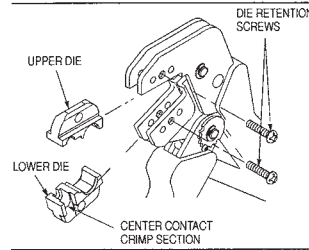

Figure 2
**3.1. Shouldered Dies (Figure 2)**
**NOTE** Die assemblies with center contact crimp sections should be installed with the center contact crimp section toward the front of the tool jaws as shown in Figure 2. If indicated otherwise in other instructions, follow the specific die requirements demonstrated in that document.